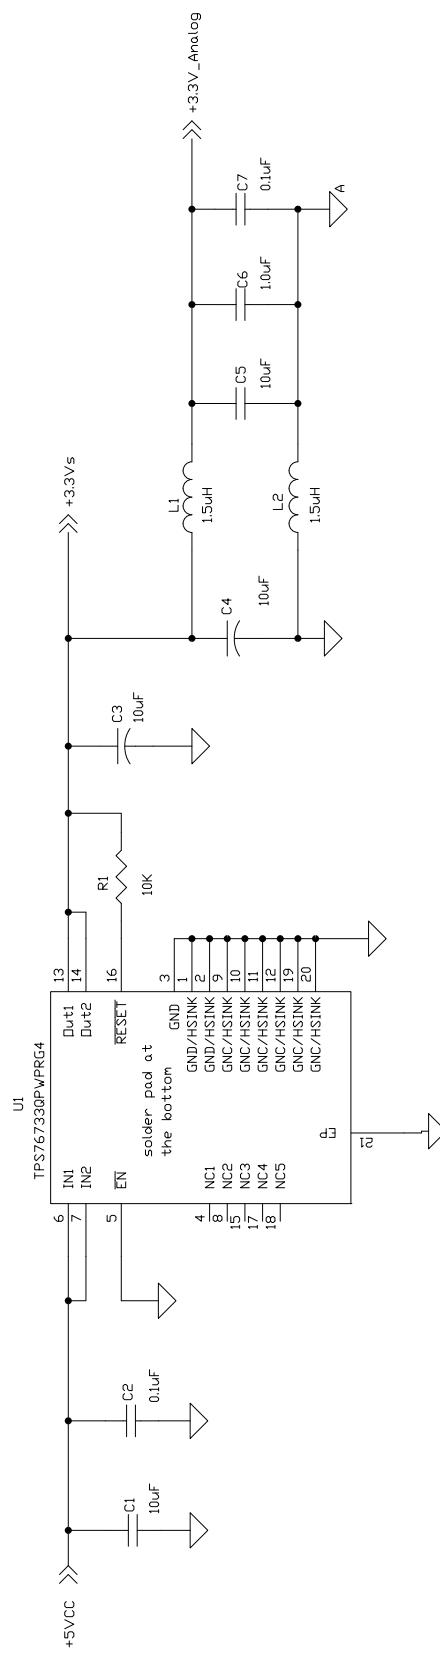

Figure 15-1:
In the schematic shown in Figure 15-1 the design is powered by an external +5VCC power source. The MC74113 and MC75113 require a 3.3V supply input. +3.3Vs, the 3.3V digital supply, is generated by the TPS76733QPWPRG4, a 1.0 Amp fixed 3.3V low-dropout voltage regulator.
- The power supplies schematic provided in Figure 15-1 is for reference only, and is designed only to meet the requirements of the example schematics used in the application notes section of the manual. The actual supplies used should be designed according to the stability and precision requirements of the application.